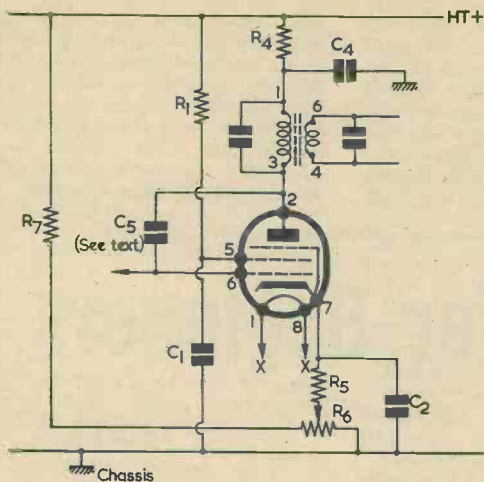

Fig. 8. Circuit of the additional i.f. stage with added gain control
Components List (Fig. 8)
For a communications type superhet, an i.f. gain control and some additional selectivity, over and above that of the ordinary receiver, is required. In Fig. 8 will be found a method of achieving this desirable state of affairs in the newly added i.f. stage. These advantages may be obtained easily and cheaply and are well worth incorporating into the design.
It will be noted from Fig. 8 that a coupling has been made from anode to grid via C₅. This capacitor is not an actual component as such but is formed by first soldering to the anode a short length of systoflex-covered wire and by similarly soldering to the grid a further small length of systoflex-covered wire. Ensure that the actual wires are completely covered with the insulating systoflex material. Switch on the receiver and set the i.f. gain control (R₆ of Fig. 8) to a point near the maximum gain setting. Slowly bring the grid wire near to the anode wire (remember that the anode wire is carrying h.t. potential) until a point is reached where the receiver oscillates or even "blocks" (i.e. signal
* There will be a considerable degree of i.f. gain when the additional i.f. stage is fitted and great care should be taken to ensure that all i.f. anode and grid leads are kept short, and that each anode lead is kept well away from the grid lead for the same valve. Small earthed screens may be soldered across each valveholder to screen anode wiring from grid wiring. It would be preferable to bring the i.f. amplifier up to full working order before fitting the optional capacitor C_5 of Fig. 8, as the capacitance offered here may mask the effects of instability caused elsewhere in the i.f. amplifier. If, without C_5 , there is instability at full i.f. gain, it would be permissible to insert a resistor of some 10 to 20 Ω in series with the grid of V_2 in Fig. 1. Such a resistor will reduce gain (without reducing selectivity) and should only be employed when all other attempts at eradicating instability have proved unsuccessful. It is possible that the risk of instability will be lessened if a 0.1 μ F capacitor is connected between chassis and the h.t. positive line at IFT₂ of Fig. 1. Also, a 22k Ω decoupling resistor and 0.05 μ F bypass capacitor could be inserted in the h.t. feed to IFT₁ in the same manner as is done in Fig. 7.